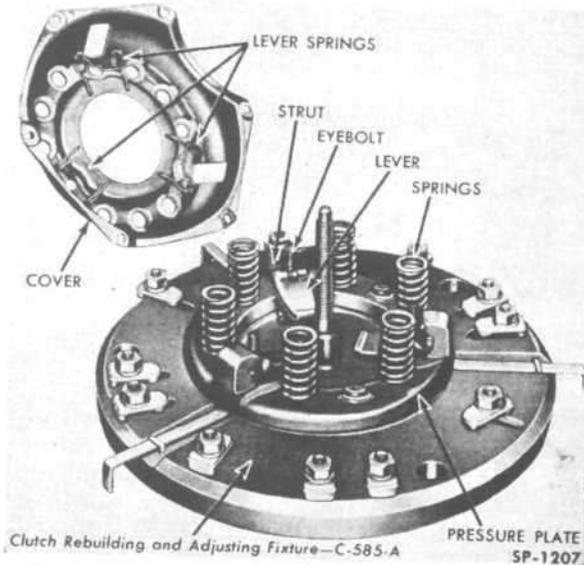

FIG. 183—SIX SPRING CLUTCH COVER PLATE REMOVED
- d. Release and remove the fixture nut and washer. Lift off the pressure plate cover exposing the springs, levers and pressure plate for inspection or replacement (Fig. 183).
NOTE: If working on a six spring pressure plate do not install adjacent to each other, install them as shown in Fig. 183. Apply Lubriplate to all contact and pivot surfaces of the eyebolts, lever pins and levers.